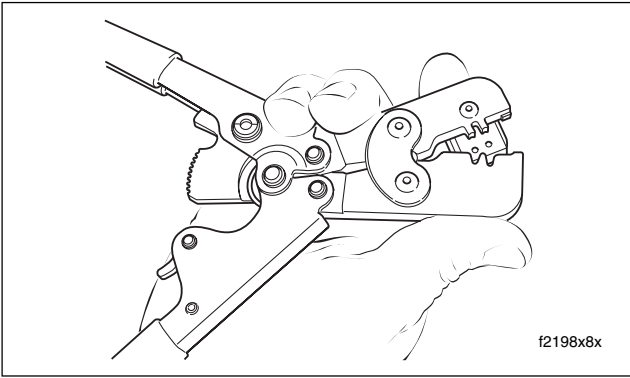

Figure B-30. Raise Locking Bar and Barrel Holder
- 5. Raise locking bar and barrel holder by pushing up on bottom tab with index finger. See Figure B-30.